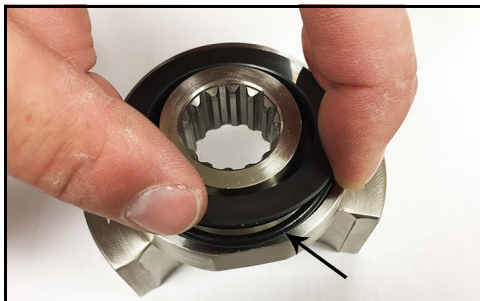

Figure 142 - Seal O-ring pinched
11. If the O-ring is pinched as shown in Figure 142, push in the O-ring with the O-ring removal tool while inserting the seal. (For part number, see "O-ring Removal Tools" on page 122.)